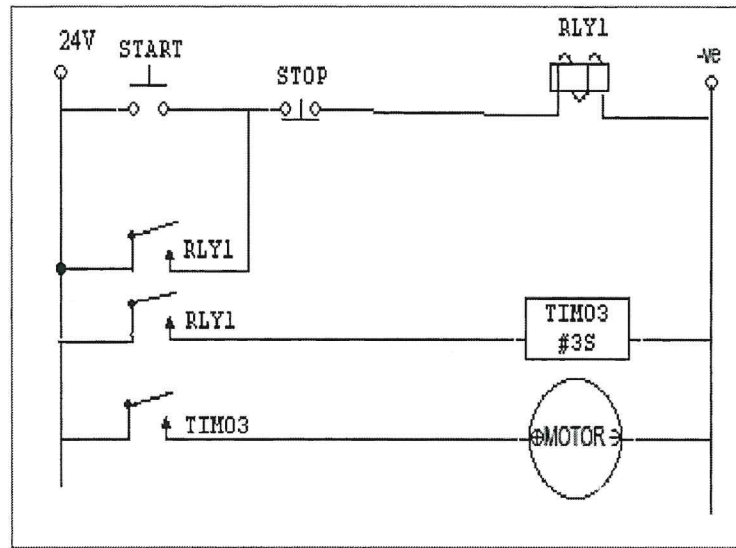

Figure A2(a)/Rajah A2(a)
- a) Based on conventional control sequence circuit (RLL/hardwired diagram) Figure A2(a). Change to a PLC ladder diagram with the KEEP method.